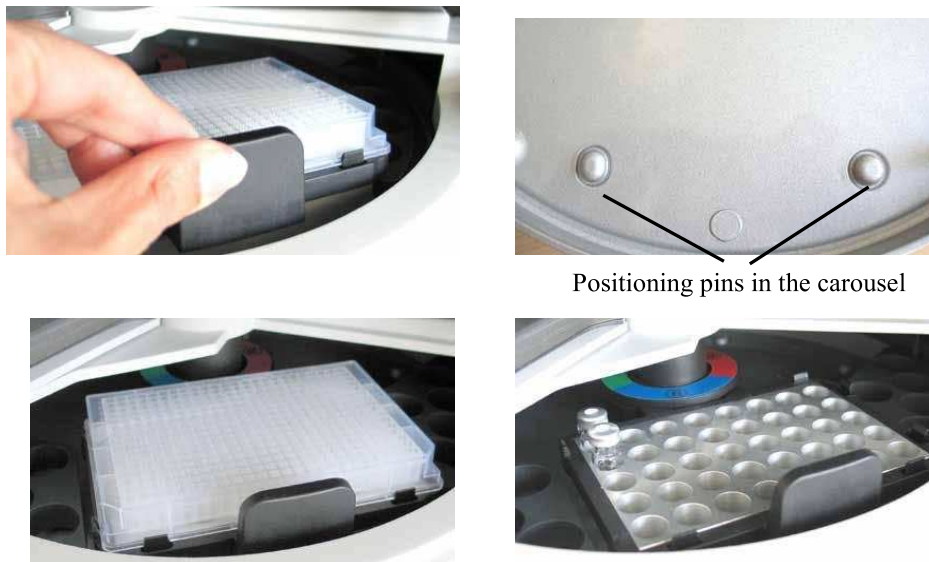

Fig. 20: Top: Inserting a sample rack (here with well plate)
4. Insert the vial tray (or the rack with well plate) in the carousel (→ Fig. 20). Make sure that the pins on the carousel bottom lock in the rack bottom.